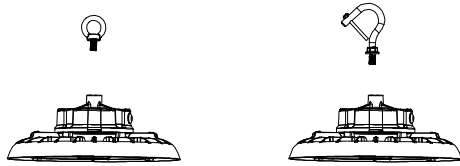

Figure 1
1. Screw the hook into the fixture. Tighten it securely (refer to Figure 1).